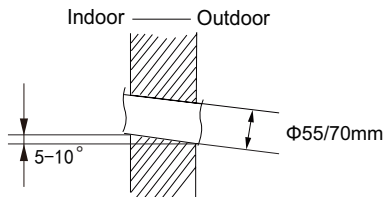

Fig.2
(2) Open a piping hole with the diameter of Φ55(70)mm on the selected outlet pipe position. In order to drain smoothly, slant the piping hole on the wall slightly downward to the outdoor side with the gradient of 5-10°. (As show in Fig.2)